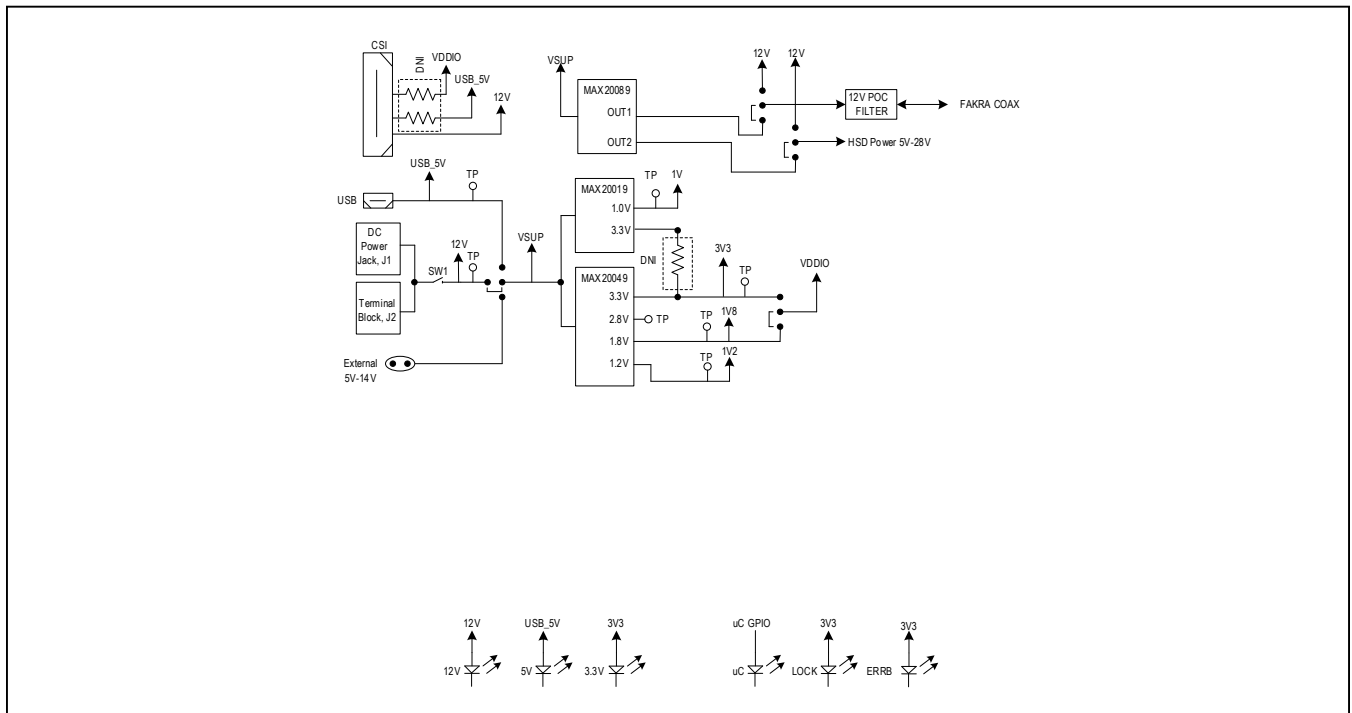

Figure 3. Serializer Evaluation Board Power Connection Diagram
- Connect +12V wall power supply into J12. Refer to Figure 3 for power supply details and options.
The power configuration of the EV kit hardware may be reconfigured to allow external supply connections. Figure 3 shows the power connection options.